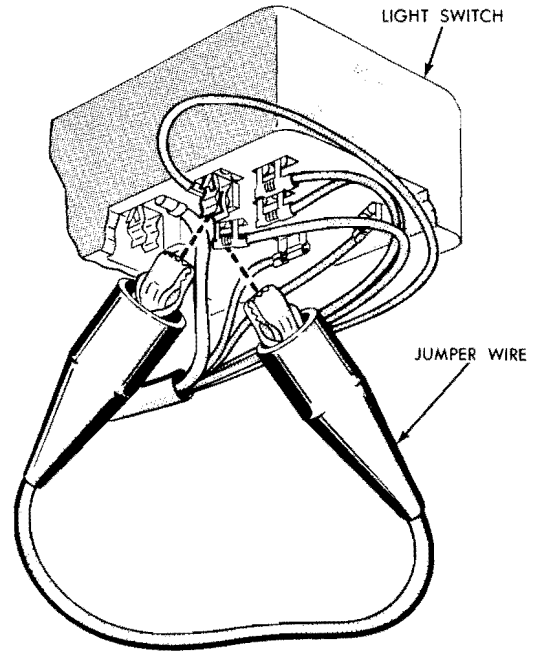

Fig. 9—Typical Jumper Wire Applications
- 2-1. Connect a jumper wire between the headlight switch battery wire connector and the parking light switch wire connection (Fig. 9). **If the parking lights operate with the jumper connected, the switch is defective.** If the lights do not operate, go on to **Test 2-2**.